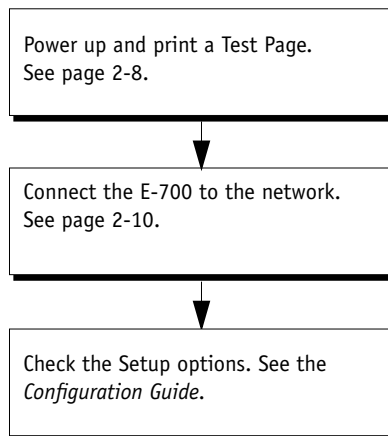

FIGURE 4-15 E-700 connection verification steps
7. Before you leave the customer site, verify E-700 operation (see Figure 4-15 on page 4-23).